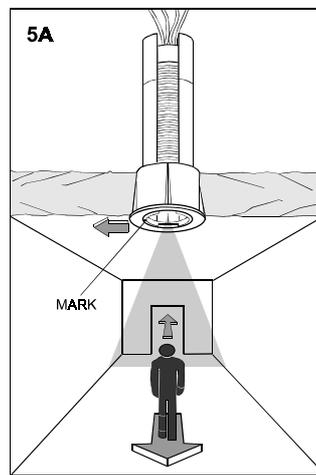

Figure 5A - Model SPY 4 Installation with Collar
**Installation with Collar:** Select a location so the curtain pattern lies across the anticipated direction of motion (Fig. 5A).
**Step 5** - Orient the detector unit so that the mark on the unit is perpendicular to the direction of motion (Fig. 5A).